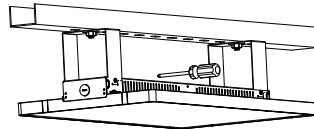

Figure 6
- Step2. Assemble the lamp on the bracket and fix it with screws; (Figure 6)